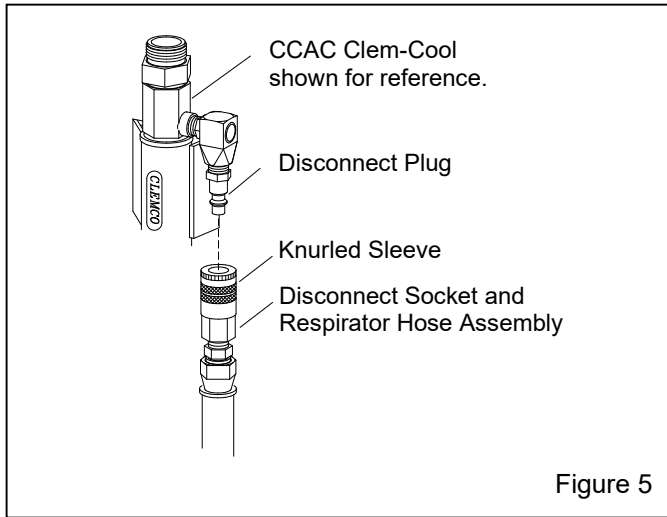

Figure 5
3.4.6 Connect and disconnect the respirator hose to and from the air-control device. Refer to Figure 5.